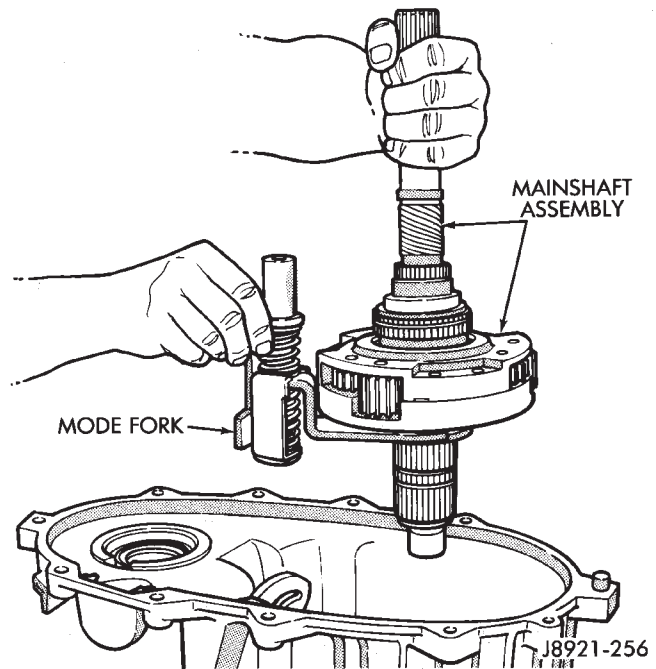

Fig. 79 Assembled Mainshaft And Mode Fork Installation
(16) Install mode fork and mainshaft assembly in case (Fig. 79). Rotate mainshaft slightly to engage shaft with low range gears.